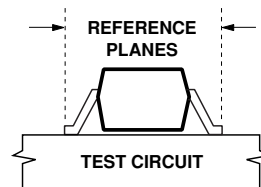

Figure 11. Reference Planes.
4. Reference plane per Figure 11 in Applications Information section.
The positions of the reference planes used to measure S-Parameters and to specify Γ_{opt} for the Noise Parameters are shown in Figure 11. As seen in the illustration, the reference planes are located at the extremities of the package leads.